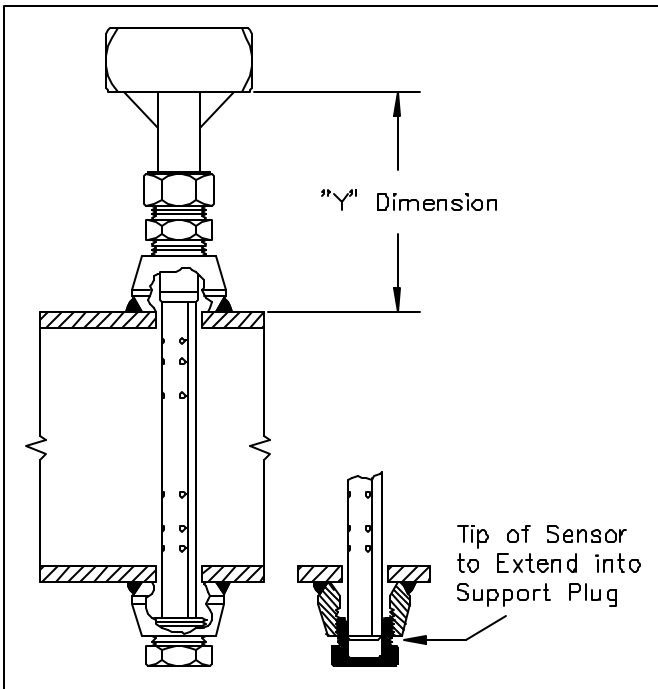

Figure 5. Installed V110
- Slide the sensor into the pipe until "Y" dimension (as shown in Figure 5) is per the following table:
The Verabar is now properly installed (Figure 5).